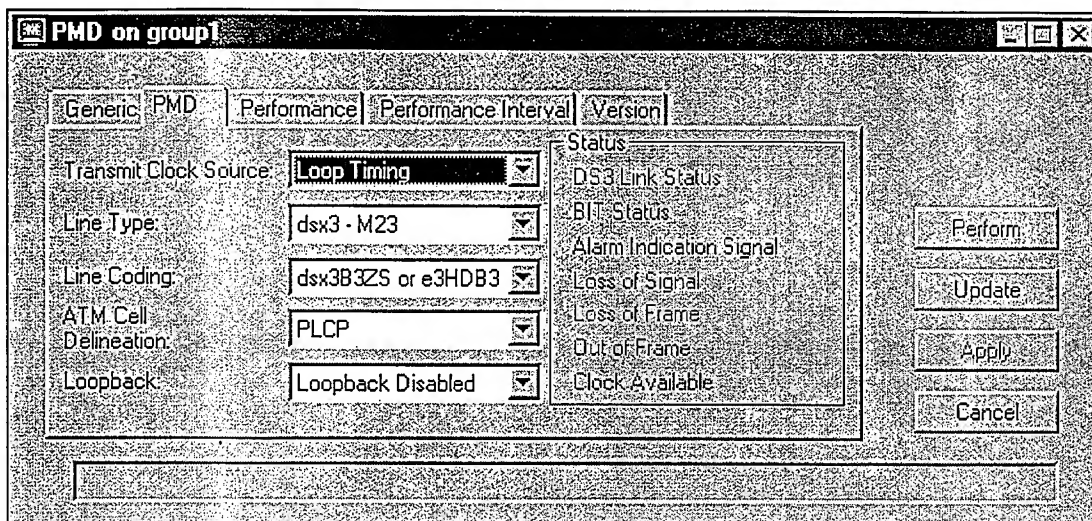

Figure 10. PMD Tab
5. Click on the PMD tab, Figure 10, and enter the remaining required PMD parameters, as indicated in the Installation Worksheet.